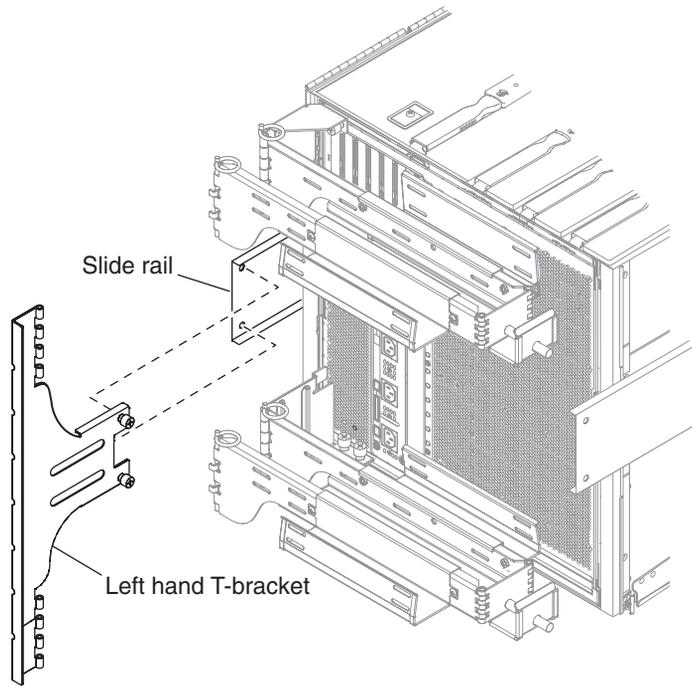

FIGURE 14-10 Attaching Left Hand T-Bracket
8. Secure the left hand T-bracket to the left hand slide rail using two captive screws, FIGURE 14-10.